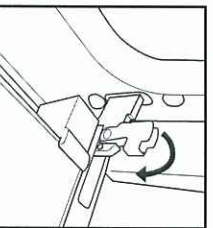

Fig. 1
2. Lift the catches and push them forwards as far as they will go (fig. 1).